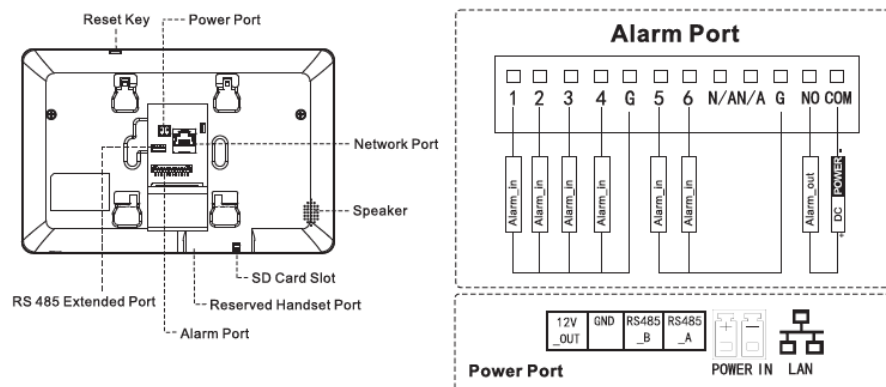

Figure 2-10
Port positions are slightly different on the rear panel, but the same port owns the same function. VTH5221E-H/VTH5221EW-H front panels are shown in Figure 2-10.
Step 2 Please connect wire by reference to Figure 2-10.